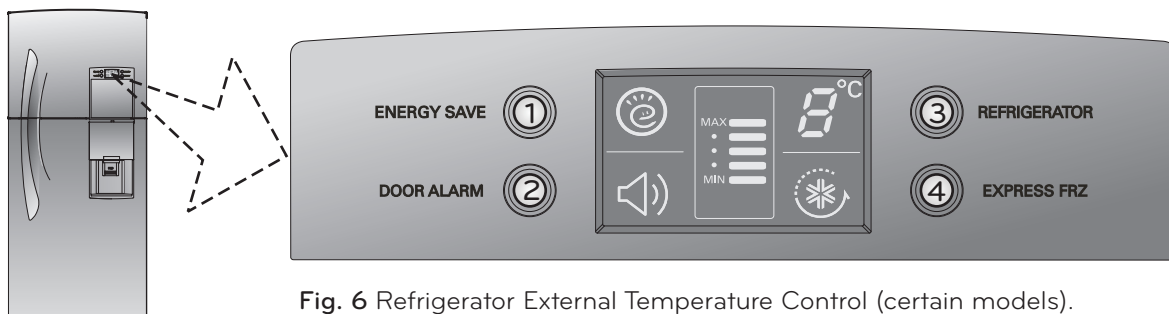

Fig. 6 Refrigerator External Temperature Control (certain models).
1. Refrigerator: Monitors the refrigerator temperature. External temperature control, Fig. 6, (certain models)